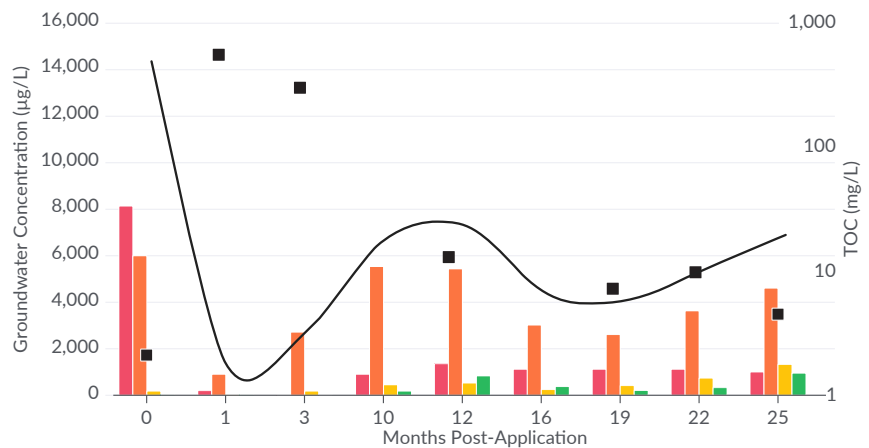

Figure 7
- VC and ethene were detected at their highest concentrations during the 25-month monitoring event, while DHC and VCR populations remained elevated Figure 7 and Figure 8.